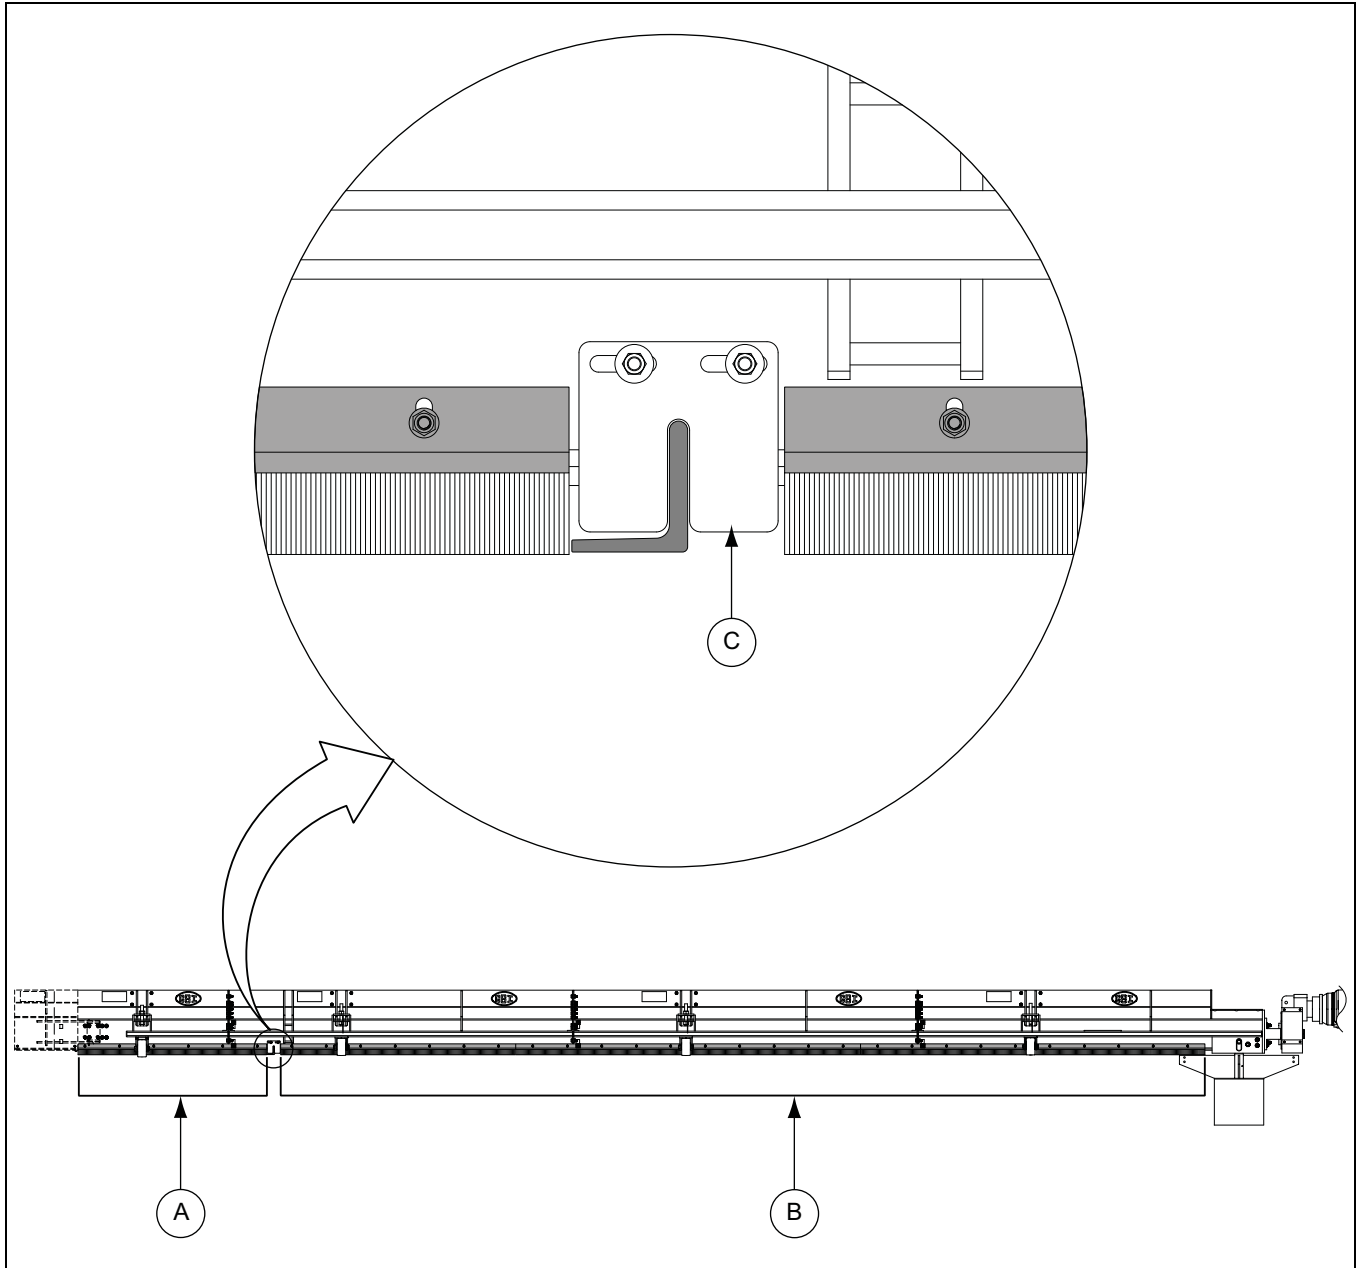

Figure 7H
1. Measure and record the brush length needed from the sweeper head (B) to the track wiper (C) and from the track wiper (C) to the end of the sweeper (A). (See Figure 7H.)